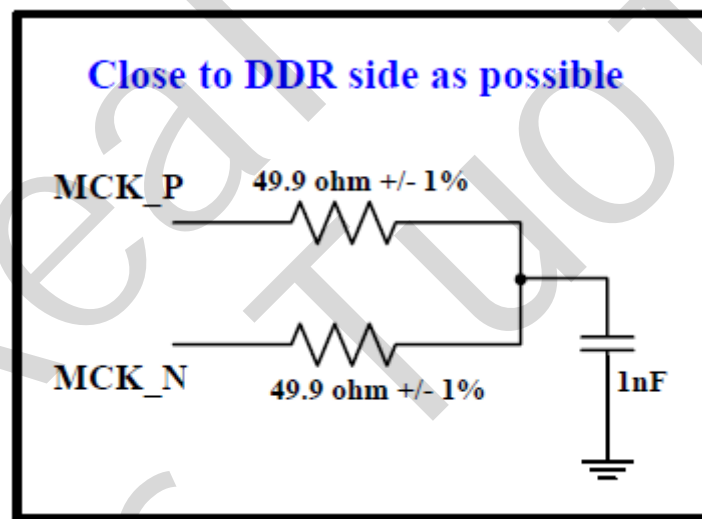

Figure 22. The scheme for MCK\_P/N Pins
- 15) The MCK\_P/N pins must be dealt as following figure to adjust the amplitude of MCK\_P/N and filter noise (see Figure 22).